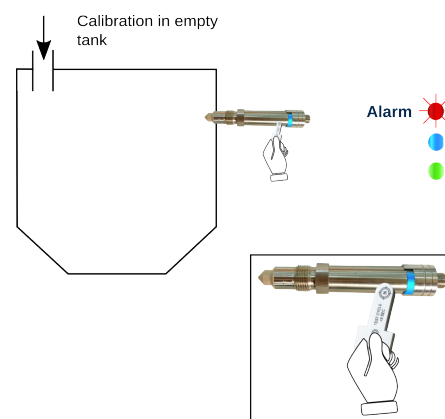

Figure 9: Hold Magnetic Key
- Start the calibration process, hold the magnetic key at the marked area of the instrument, the status of LED output will change and Blue LED will flash four times with the combination of 2 blinks. When Blue led light will be constant, then release the magnetic key. As shown in Figure 9.
- Hold the Magnetic key at the marked point of vibrate instrument, so the current status of PNP and LED output will change and blue LED light will flash twice with the combination of five blinks, when LED light will be constant then release the key. As shown in Figure 9.
- Hold the magnetic key at the marked point of vibrate instrument the current status of the PNP and LED output will change and blue LED light will flash four times with the combination of four blinks, LED light will be constant then release the key. as shown in Figure 9.
The magnetic key is held at the marked area of the vibrate instrument the current status of the PNP and LED output will change and the blue LED light will flash two times with the combination of one blink, the LED light will be constant then release the key. as shown in Figure 9